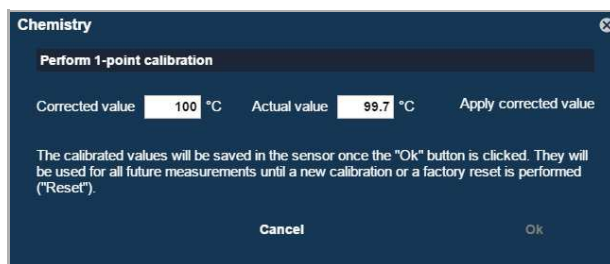

Fig. 2: Sensor calibration.
- Go to  and then click on Sensors/Channels and select the immersion probe. To perform 1-point calibration, click on  and enter 100 °C as corrected value (Fig. 2).